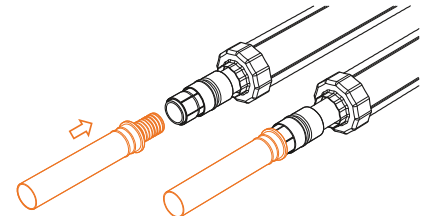

Fig. B10.2.5
6. Insert the welded inner steel coupler into the service pipe until its shoulder touches the end of the service pipe (Fig. B10.2.5).